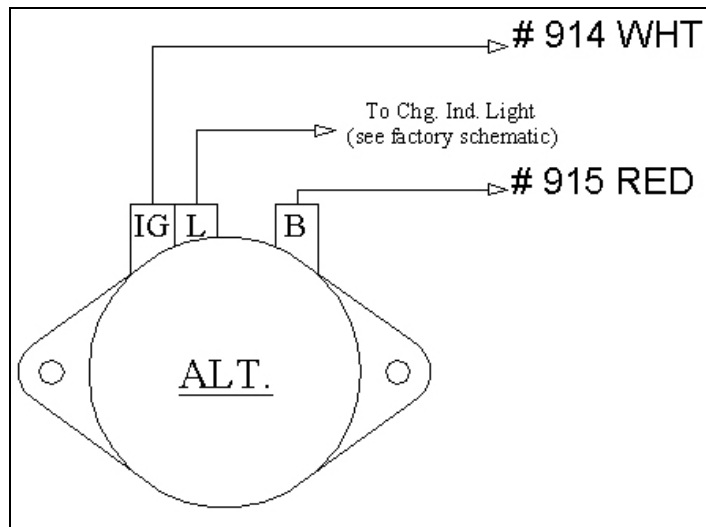

Figure 7-4 Toyota Alt. Diagram (Internal Regulator)
7.4 Toyota Alternator w/Internal Regulator. See Figure 7-4
*Note: Your Alternator may not appear exactly as represented in **Figure 7-4**. The circuits are wired the same way, though.*
8.3 GM Ignition (Start/Run) System. See Figure 7-4.